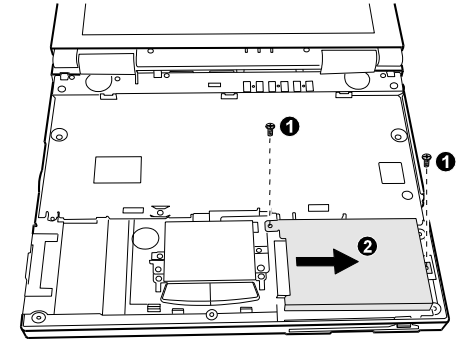

Figure 5-27. Removing the Hard Disk Drive
2. Plug the hard disk drive connector to the touch-pad board and secure the bracket in place with two screws.(fig 5-27)
5. Replace the hard disk with its bracket by plugging the connector to the touch-pad board and securing with two screws.(fig 5-27)